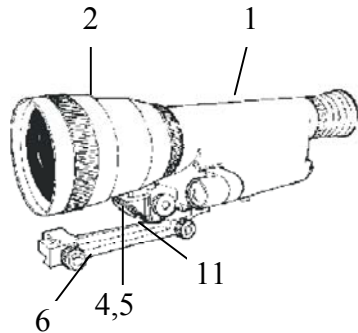

Figure 1
The night sight NS-156 (figure 1,2) consists of Objective Lens (2), Housing of the Image Intensifier Unit (1) and eyepiece (3). Objective lens (2) can be focused on different distances to the observed objects. The lens has integral projection gear (4) having a reticule module (5). The required electric current is supplied from the main batteries through a wire. Switching on the reticule illumination and brightness control is made with wheel (10). Objective lens (2) is secured with lens cover to protect against highlight and physical impacts. Eyepiece (3) provides dioptrically compensation of the viewer's sight. Inside housing (1) there is a battery compartment covered with a cover (7). Inside the battery compartment there is compact strip. Main switch (9) is located on the housing of the device. The housing has "weaver" type mount for attaching to a weapon. Adjustment of the reticule within the field of view can be done with the help of knobs (11).